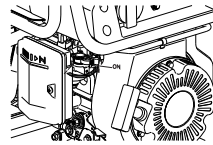

figure 4-2
- (2). Turn the fuel valve to "ON" (See figure 4-2).